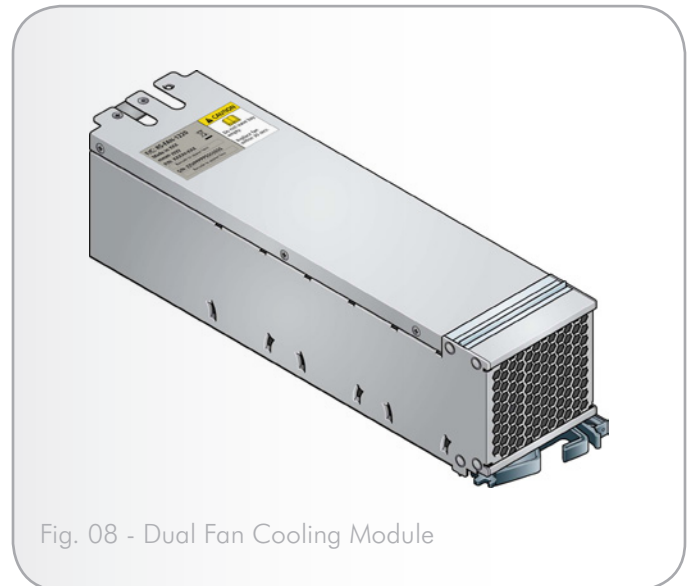

Fig. 08 - Dual Fan Cooling Module
- ◆ One plug-in Dual Fan Cooling Module (see Fig. 08)
The Dual Fan Cooling Module (*Fig. 08*) provides system cooling, thermal monitoring and control functions.